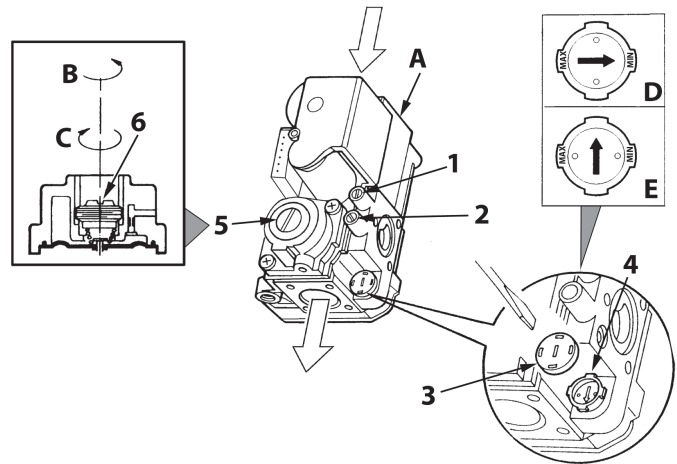

fig. 18 - Pressure adjustment
The boiler's output PEGASUS D LN setting must comply with the value given in the technical data tablesec. 5.3. The gas valve is factory-set and provided with a dedicated gas diaphragm. When replacing the gas valve the adjustment screw 6 (fig. 18) must be screwed down.
2. Remove the small protection cap 3 (fig. 18) from the gas valve. Using a small screwdriver, adjust the ignition STEP for the required gas (G20-G25 position D fig. 18 or G30-G31 position E fig. 18); then refit the cap.
Key fig. 18
- Vent the air from the gas pipes by means of the gas valve pressure point 1 (fig. 18).